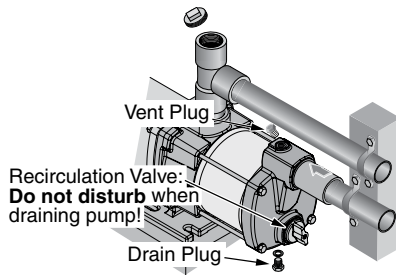

Figure 16
**DO NOT remove the recirculation valve cover** (there are spring-loaded parts inside the recirculation valve – see Figure 16) when priming or draining the pump. The drain is a hex-head pipe plug underneath the pump body. To drain the pump, remove the hex plug (Ref. No. 17, *Repair Parts* diagram). **Do not disturb the recirculation valve** (Ref. No. 19).
**NOTICE:** Drain pump (see Figure 16) when disconnecting from service or when it might freeze. You can fill the pump with RV anti-freeze (propylene glycol) to prevent it from freezing. DO NOT remove the Recirculation Valve to drain the pump (Figure 16). Remove the hex head plug on the bottom of the Pump Suction Body to drain the pump.
**NOTICE:** Do not disturb the recirculation valve (see Figure 16). It is NOT a drain plug!